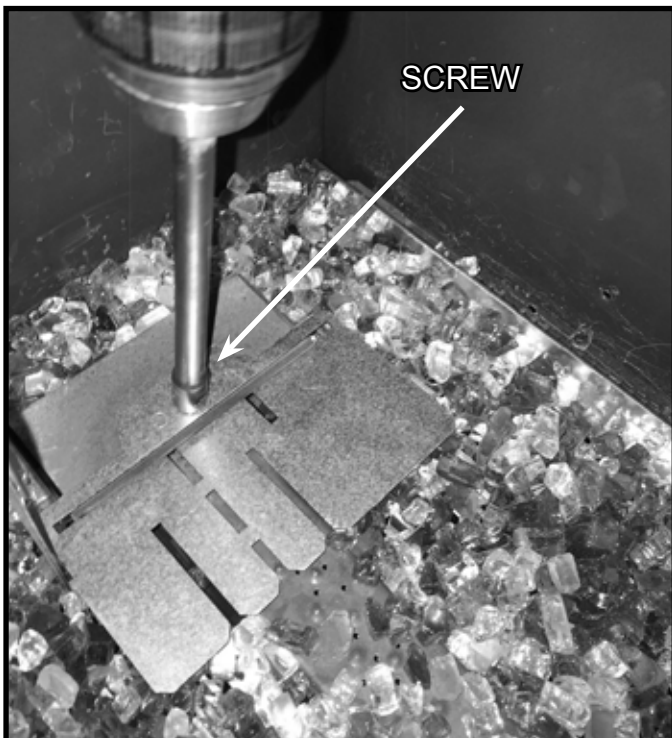

Figure 3. Remove Media Placement Jig
5. Remove the screw, noted in Figure 3, from the media placement jig and carefully lift the jig out of the appliance. **DO NOT allow any pieces of media to fall into the area in front of the pilot.**